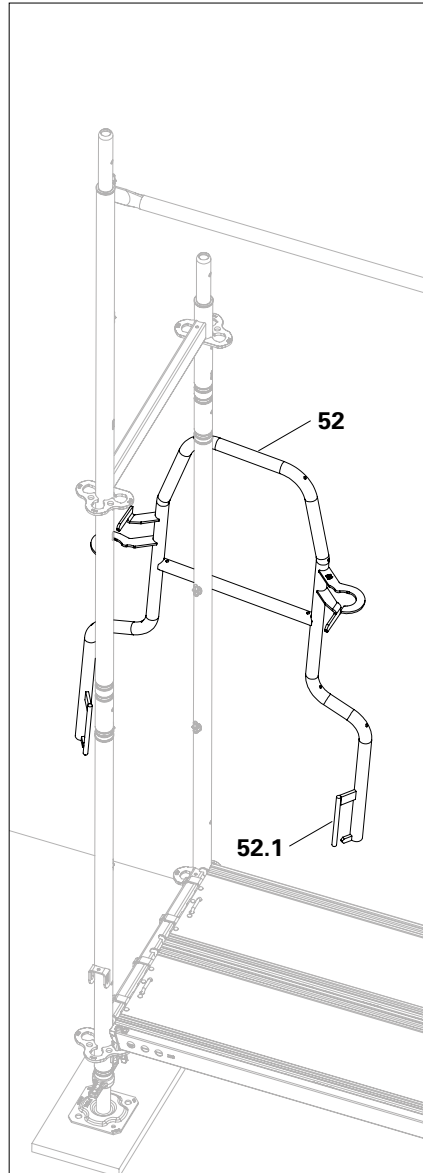

Fig. A3.14a
1. Guide the end guardrail in advance (**52**) outwards around the end frame. The pegs (**52.1**) should then be pointing towards the inner side of the scaffolding. (Fig. A3.14a)